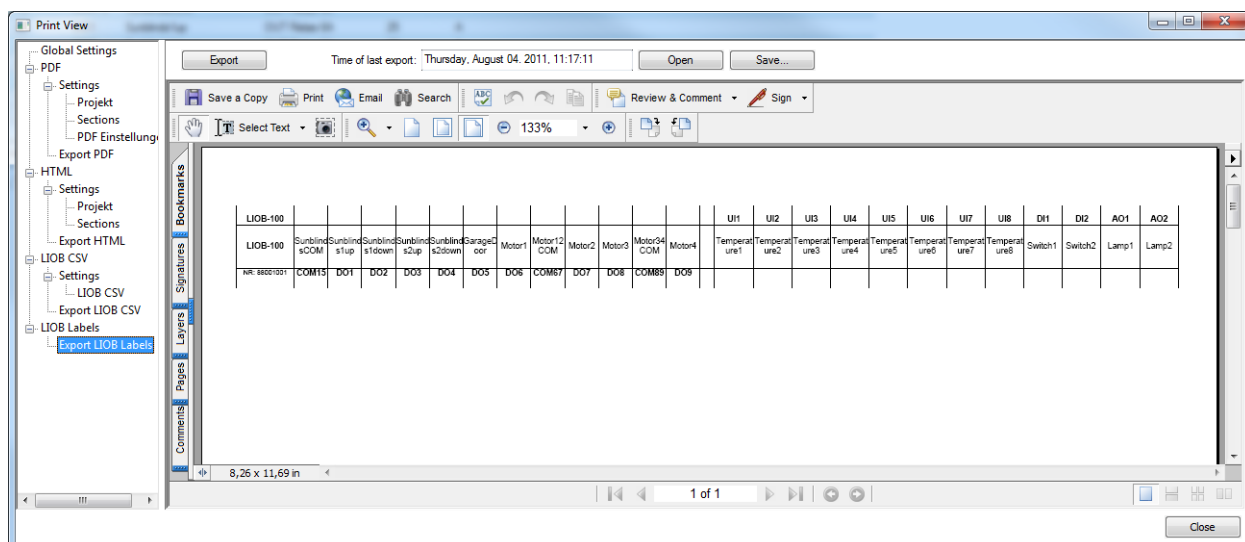

Figure 71: Print View
3. This opens the Print View dialog as shown in Figure 71. Select **Export LIOB Labels** on the left side.